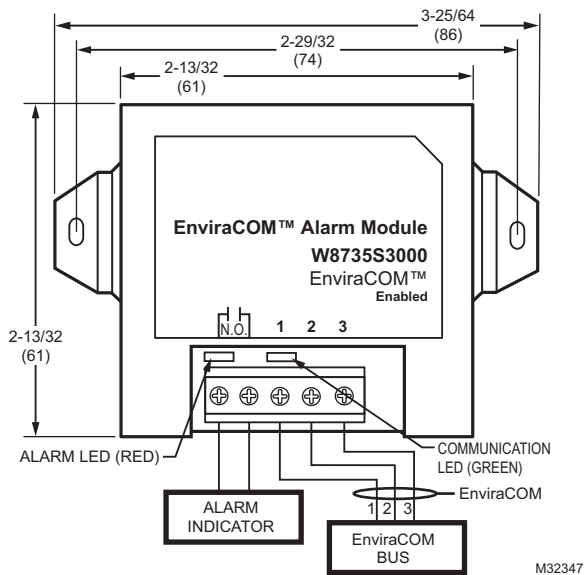

Fig. 1. W8735S3000 EnviraCOM Alarm Module wiring diagram.
- 2. Wire the 1,2, and 3 terminals on the EnviraCOM Alarm Module to the 1,2, and 3 terminals on the EnviraCOM™ enabled Oil Primary, Aquastat®, or any aforementioned EnviraCOM enabled controls, or anywhere on the EnviraCOM™ bus where access is available and convenient. See Fig. 1.
- 3. Connect the 2 wires from the alarming circuit (See Fig. 1) into the Normally Open (N.O.) terminals on the EnviraCOM Alarm Module.